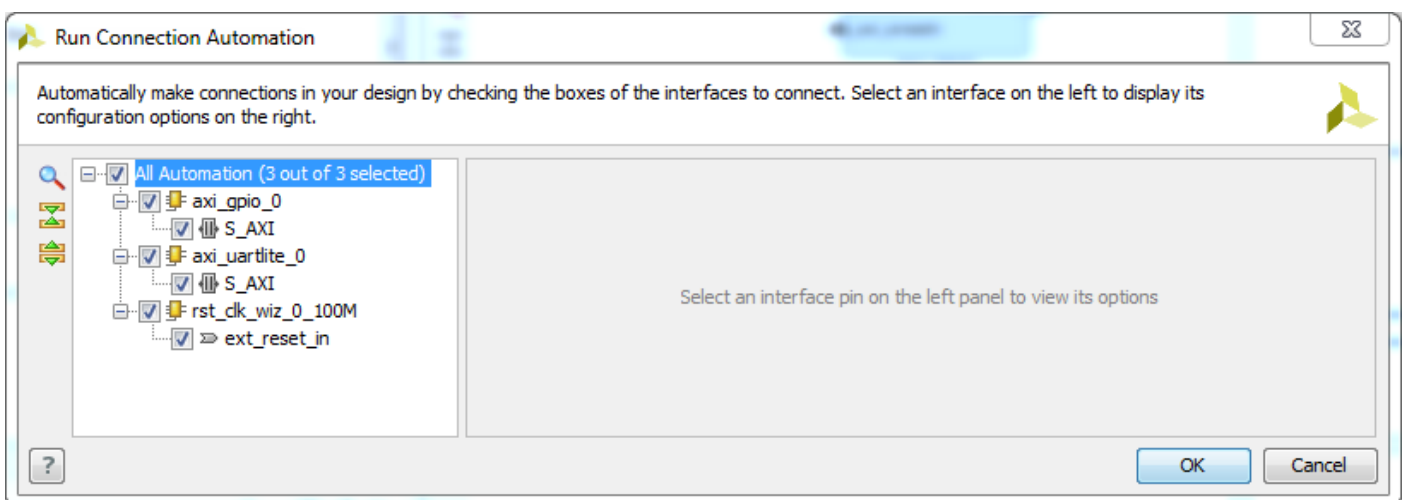

Figure 15: Run Connection Automation Dialog Box
2. The Run Connection Automation dialog box opens, as in Figure 15. Check all the interfaces in the left pane as in the figure. You may leave unchecked interfaces, if you plan to connect them at a later time. You should also inspect the options you have for the items you select in the left pane. However, at this point there is no need to change anything.